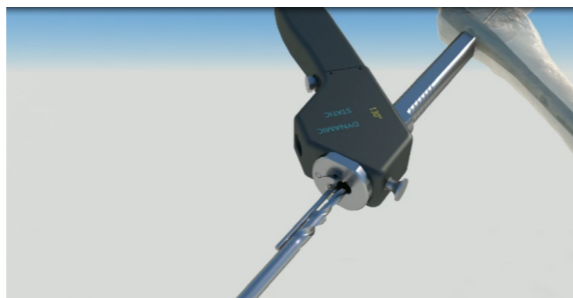

Figure 12a
- Use a 7mm pressure screw to drill along the guide sleeve to the depth limit position (Figure 12a).